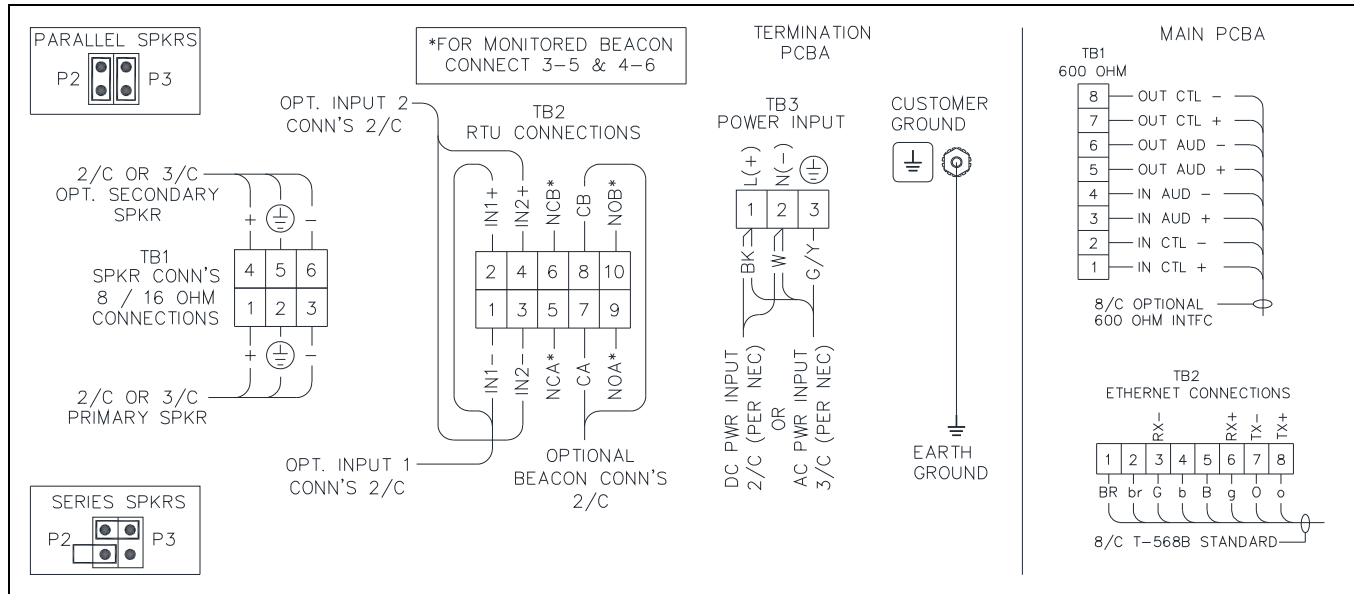

Figure 3. SP2 Connection Diagrams
The SP2 station provides terminal blocks on the termination PCBA, located in the rear enclosure, for field wiring the power, speaker, and RTU connections. The main PCBA, mounted to the back of the front panel, provides pluggable terminal blocks for the 600-ohm audio and Ethernet network connections (see Figure 3).
2. Secure it to the ground terminal located in the lower right corner at the back of the rear enclosure (see Figure 3).
5. Configure the speaker jumpers; P2 and P3, for the impedance of the connected speakers (see Figure 3).